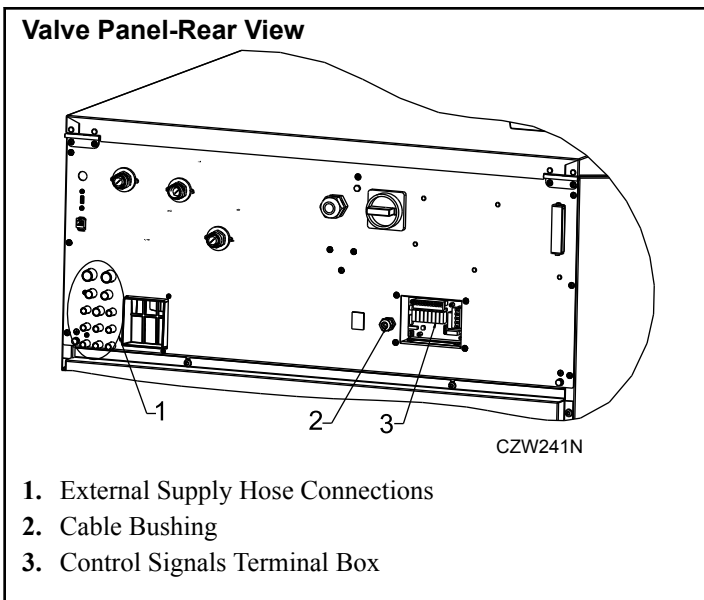

Figure 51
1. Facing the rear of the machine, locate the eight (8) 5/16 inch [8 mm] supply hose connections found on the left-hand side of the valve panel. Refer to *Figure 51*.
The electric connection for supply control signals (if used) is available on the rear panel. Refer to *Figure 51*. At the terminal box, there is a label for electric connection.
This function can be activated by an external contact which is connected between the pins ↑ and ↓. Refer to *Figure 51*. Such connection is possible only with machines which had been ordered with the "Heating Delay / Waiting for Detergent" option.